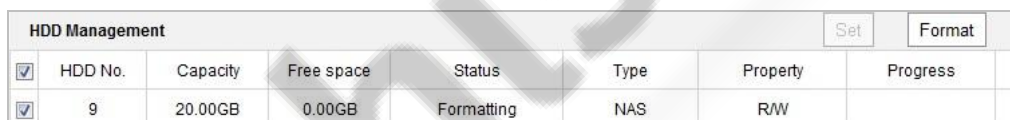

Figure 5-7 View Disk Status
- When the initialization completed, the status of disk will become **Normal** as shown in Figure 5-7.